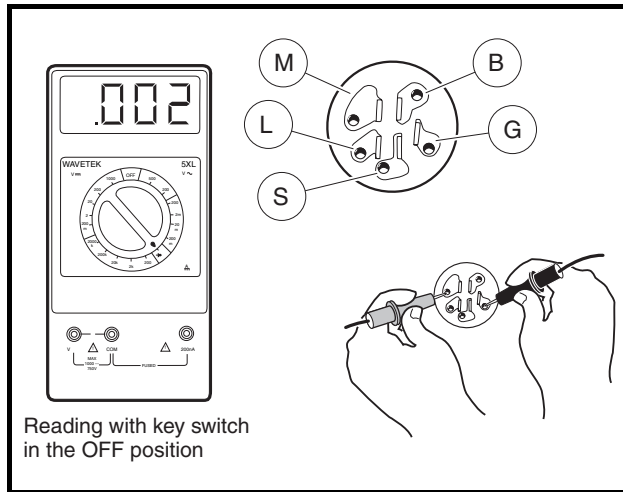

Figure 11-51 Test Key Switch – Engine Kill Circuit
- Place the red (+) probe on the (M) terminal and the black (–) probe on the (G) terminal. With the key switch OFF, the reading should be continuity. With the key switch turned ON, the reading should be no continuity. If either reading is incorrect, replace the key switch (**Figure 11-51, Page 11-40**).